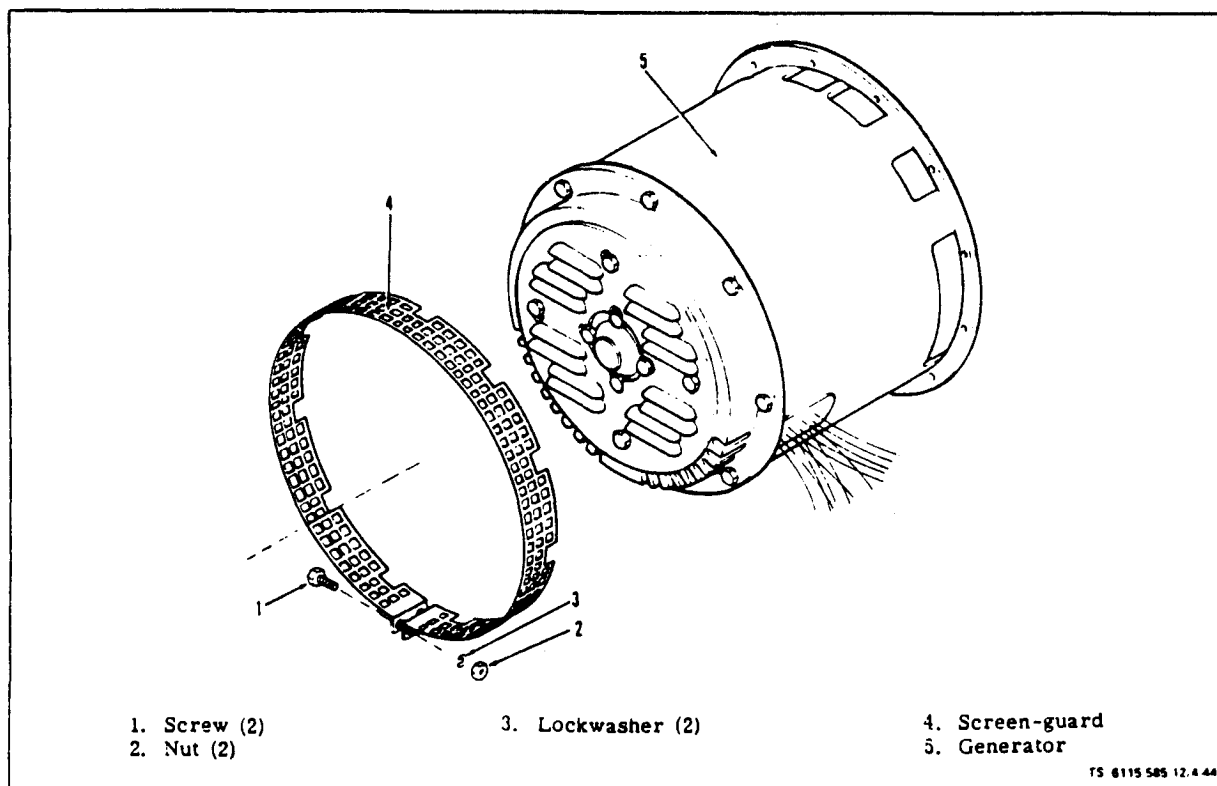

Figure 4-44. Generator Screen-Guard
b. Remove (see figure 4-44). Remove two screws (1), lockwashers (3), and nuts (2) holding screen-guard (4) in place and remove screen-guard.
d. Install. Place serviceable screen-guard in position over openings in generator stator-housing assembly (5). Tighten screen-guard (4) in position with two screws (1), lockwashers (3) and nuts (2). On ASK equipped generators, install ASK cover assembly (para 5-3).